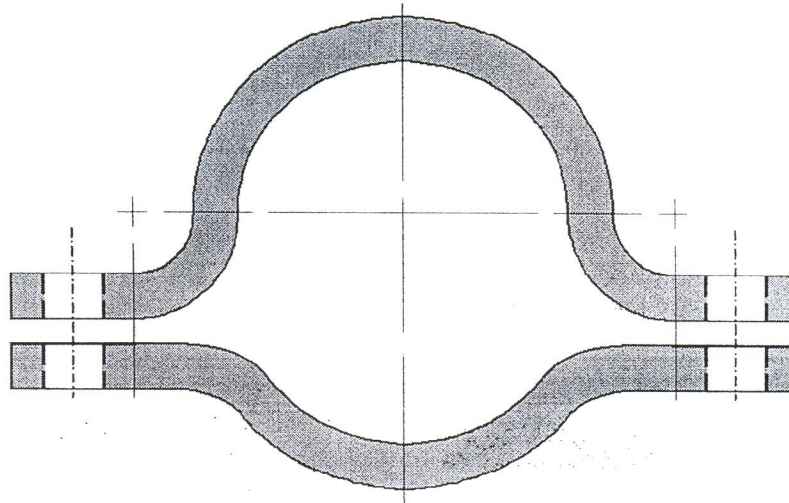

Figure 4 Pipe holder
- a) A company was awarded to fabricate 450 pieces of pipe holder (see Figure 4). This project requires 12 pieces of plate format 1829mm x 4.0mm x 6096mm. The nesting process shows that the plate format wastage each is 8.5%. What is the total cost of the wastage?